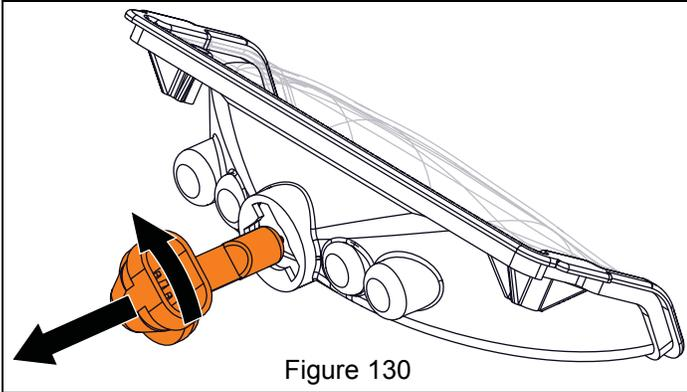

Figure 130
- Turn bulb one-eighth turn counterclockwise and remove from headlight bezel. See Figure 130.